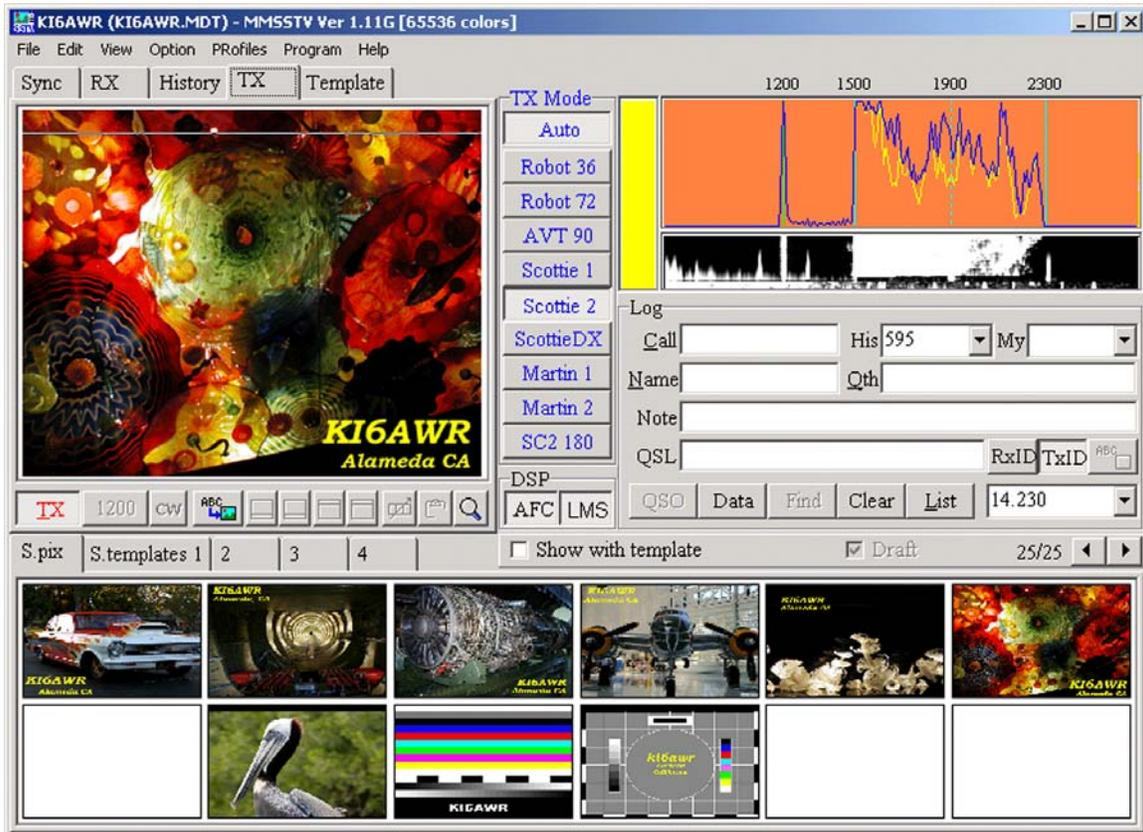

Figure 6. MMSSTV TX screen
The TX mode selection buttons are located to the right of the image window. The column of buttons provides a subset (9) of the more popular of the 43 modes that MMSSTV supports. The list may be customized, but the default list shown in Figure 6 is usually quite adequate.